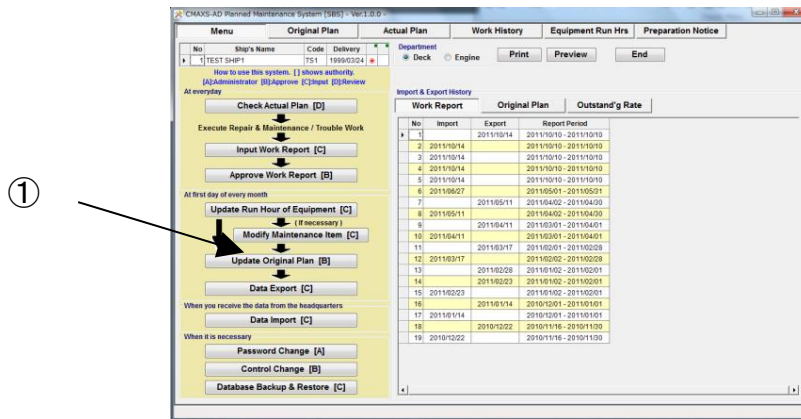

Fig.11-1 Menu Screen
(1) On the "Menu screen" (Fig.11-1), select [Update Original Plan].